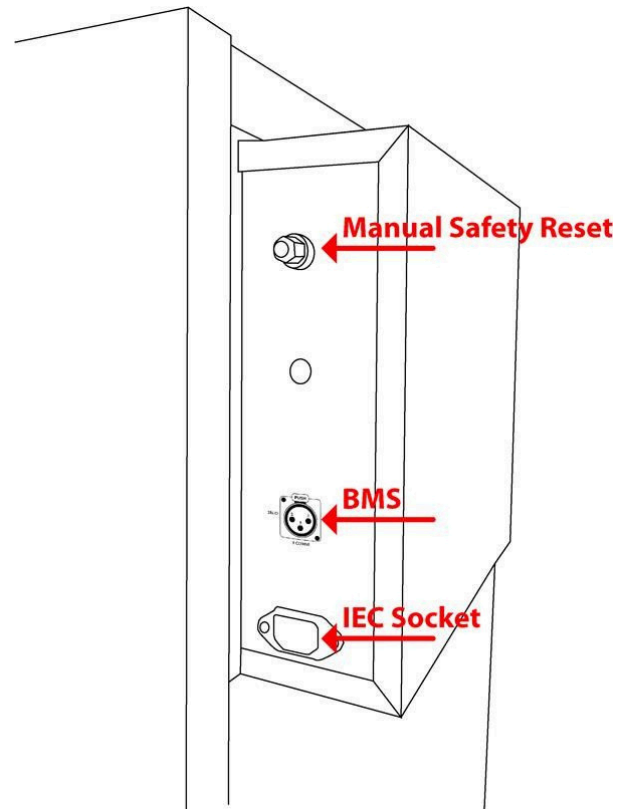
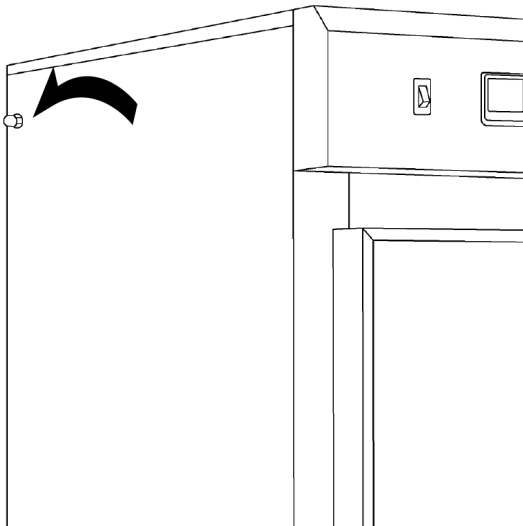

Fig 2. TBW-520F - 1100F
Fig 1. TBW-250F-1-GD
- Locate the safety reset at the back of the TBW-520/1100F models (**Fig 2**) or on the side of the TBW-250F (**Fig 1**). It is displayed as a red or black knob.